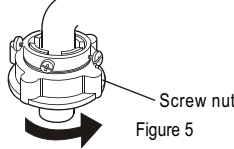

Figure 5
6. Install the protecting cover of the drain outlet to the other side, as indicated in Figure 5.
4. Take off the nameplate. Twist the fastening nut as per the indication of the figure to seal up the exit end face of the faucet. See to Figure 5.